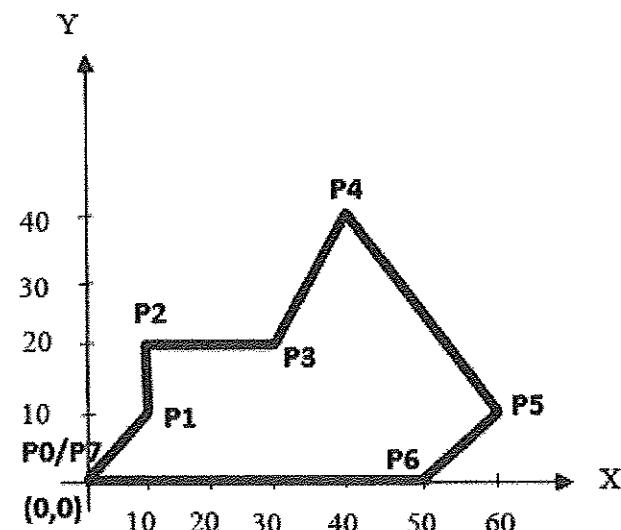

Figure 3(c)
- (c) Based on Figure 3(c), interpret the figure by constructing a CNC program using the following system: